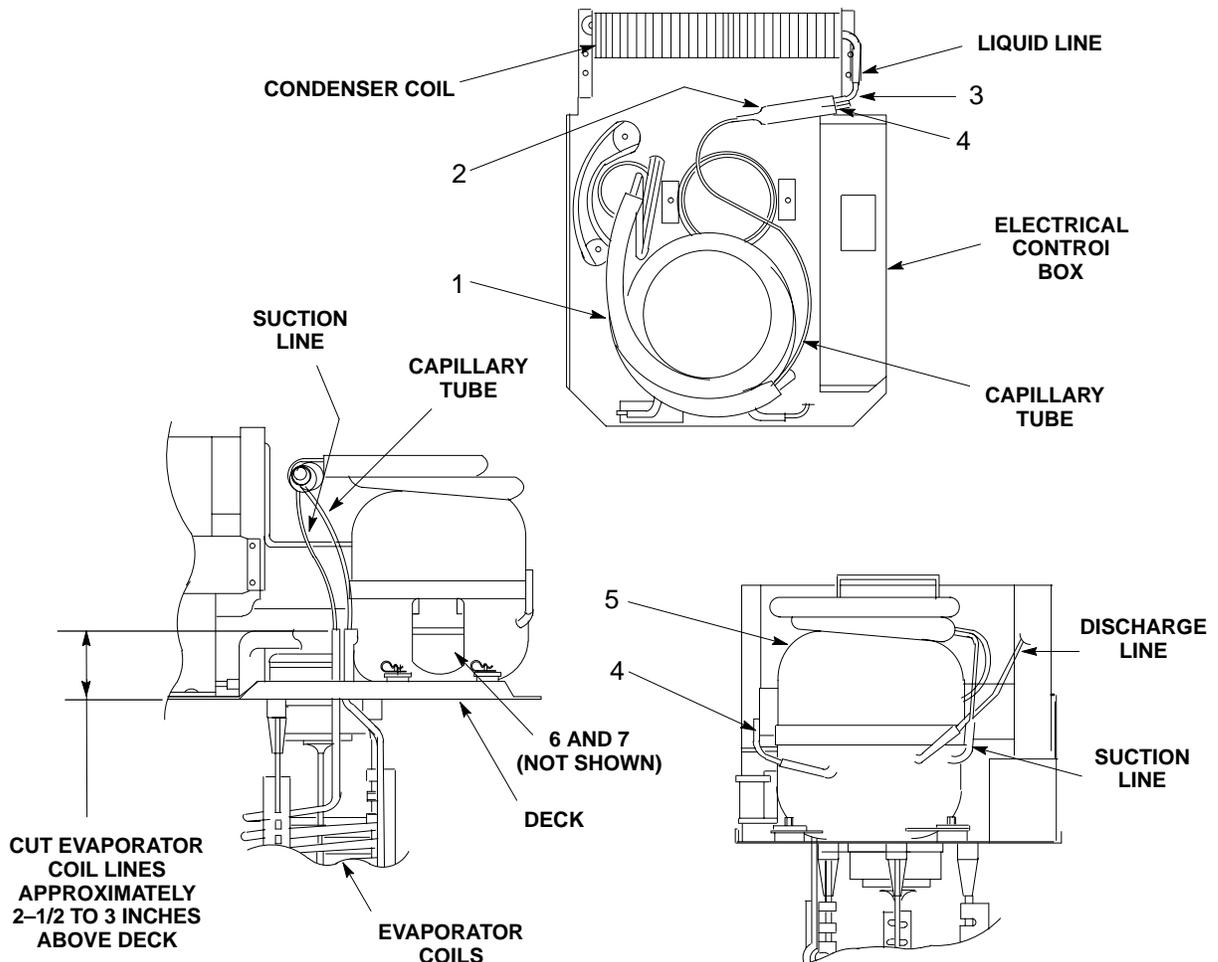

FIGURE 1. PARTS IDENTIFICATION (SOME PARTS NOT SHOWN FOR CLARITY)
10. Cut off evaporator coils refrigeration tubes approximately 2-1/2 to 3 inches above drop-in refrigeration assembly deck as shown in Figure 1.
8. Place SUCTION LINE ASSEMBLY (item 1) coil in position over top of compressor as shown in Figure 1.
9. Connect suction line assembly suction line and capillary tube to evaporator coil lines as shown in Figure 1.
10. Connect discharge and suction line assembly suction line to compressor suction and discharge lines as shown in Figure 1.
11. Insert PROCESS LINE (item 4) in compressor process line tube as shown in Figure 1.
12. Install ELBOW FITTING (item 3) on condenser coil as shown in Figure 1.
13. Install DUAL INLET STRAINER DRYER (item 2) on elbow fitting as shown in Figure 1.
14. Insert PROCESS LINE (item 4) in dual Inlet strainer dryer as shown in Figure 1.
15. Insert suction line assembly capillary tube in dual inlet strainer dryer as shown in Figure 1. CAPILLARY TUBE TO BE INSERTED NO MORE THAN 3/8 INCH INSIDE DRYER.